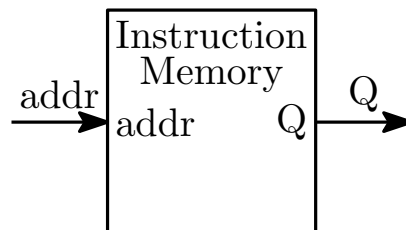

Figure 4: IM schematic symbol.
As its name suggests, an Instruction Memory (IM) stores the instructions to be performed by the MIPS. This memory is a Read Only Memory (ROM), whose values are initialized by the programmer prior the execution of the very first instruction by the MIPS. Figure 4 shows the schematic symbol of an IM.